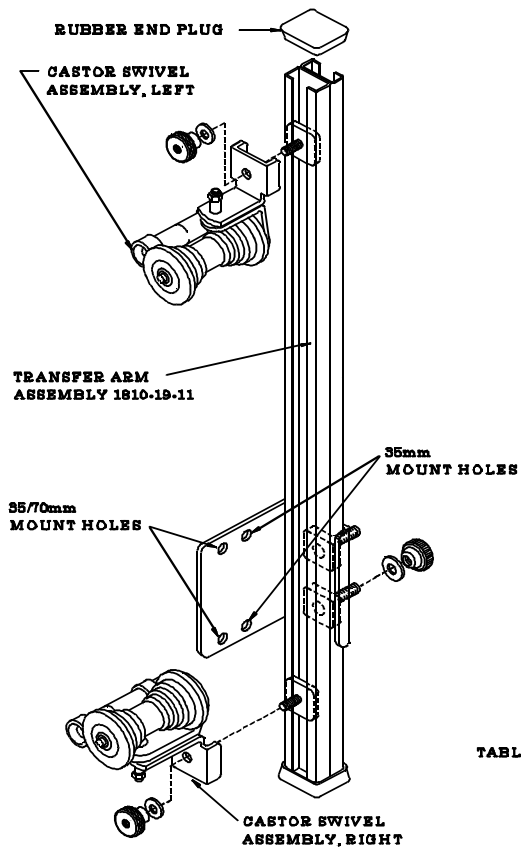

Figure 1
1. Remove the Rubber End Plug from the top of Transfer Arm (see Fig. 1, page 2). Loosen the Transfer Arm Knob Sub-assemblies and slide the 35mm Castor Swivel Bracket and Pulley Assemblies out the top of the arm. Replace with the new 35/70mm assemblies.
2. Remove the two 1/4" Capscrews holding the 35mm Transfer Arm Mount Bracket to the table and replace the with the new 35/70mm Transfer Arm Mount Bracket. Use the mounting holes shown in figure 1 for proper 35/70mm film alignment. The 35mm Transfer Arm Mount Bracket will not be reused.